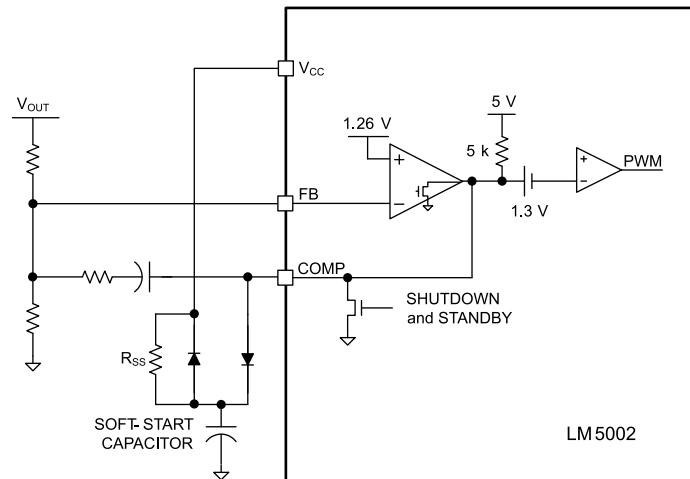

图 8-4. Soft-Start Circuit
Internal thermal shutdown circuitry is provided to protect the IC in the event the maximum junction temperature is exceeded. When the 165°C junction temperature threshold is reached, the regulator is forced into a low power standby state, disabling all functions except the VCC regulator. Thermal hysteresis allows the IC to cool down before it is re-enabled. Note that because the VCC regulator remains functional during this period, the soft-start circuit shown in 图 8-4 must be augmented if soft start from thermal shutdown state is required.
Soft start (SS) can be implemented with an external capacitor connected to COMP through a diode as shown in 图 8-4. The COMP discharge MOSFET conducts during Shutdown and Standby modes to keep the COMP voltage below the PWM offset (1.3 V), which inhibits PWM pulses. The error amplifier attempts to raise the COMP voltage after the EN pin exceeds the 1.26 V standby threshold. Because the error amplifier output can only sink current, the internal COMP pullup resistor (approximately 5 k Ω) supplies the charging current to the SS capacitor. The SS capacitor causes the COMP voltage to gradually increase until the output voltage achieves regulation and FB assumes control of the COMP and the PWM duty cycle. The SS capacitor continues charging through a large resistance, R_{SS} , preventing the SS circuit from interfering with the normal error amplifier function. During shutdown, the VCC diode discharges the SS capacitor.